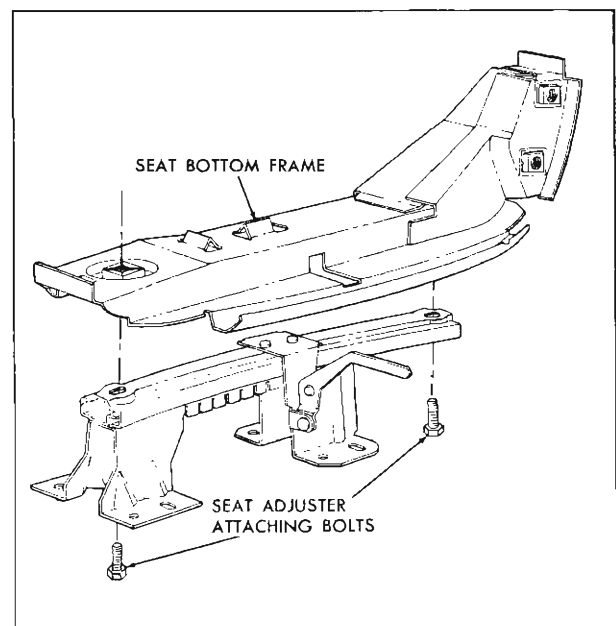

Fig. 8-1 Manual Seat Adjuster
4. Remove adjuster-to-seat bottom frame front and rear attaching bolts and remove seat adjuster from seat assembly (Fig. 8-1).